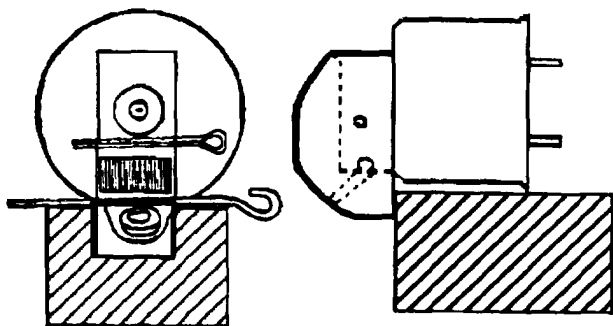

Figure F-2. BA-605/U or BA-617/U secured to block before firing
1. Place the THR battery on a concrete block or other fireproof material as shown in figure F-2. Secure each battery with two pieces of 16 AWG gauge or larger uninsulated wire. Copper, steel baling wire or other uninsulated wire may be used for this purpose.